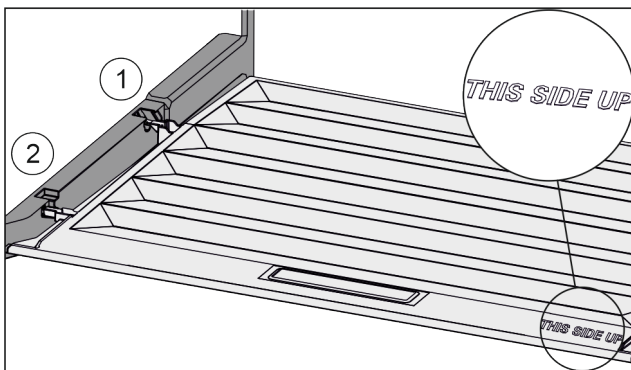

Fig. 137
- ▶ Insert the lip of the cover over the opening of the rear bracket Fig. 137 (1) and click into place Fig. 137 (2).